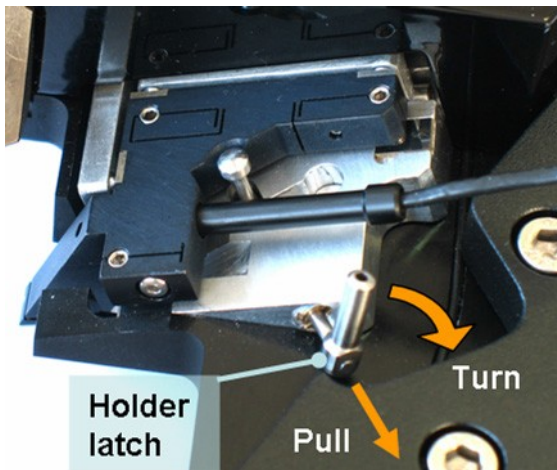

Figure 3.4.1 Probe holder fixed by its latch.
- Remove the probe holder from the carriage by pulling and then turning holder’s latch clockwise up to the stop (fig. 3.4.1, 3.4.2).